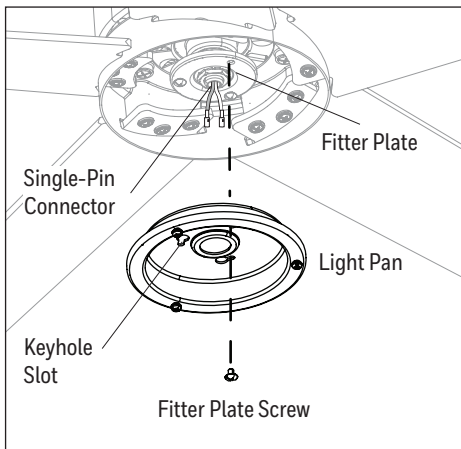

Figure 4.4
4. Remove one of the three fitter plate screws preassembled to the fitter plate and loosen the other two but do not remove. Feed the single-pin connector through the center hole in the light pan. Align the keyhole slots in the light pan with the loosened screws in the fitter plate. Turn light pan clockwise and replace the previously removed fitter plate screw. Tighten all screws (Figure 4.4).